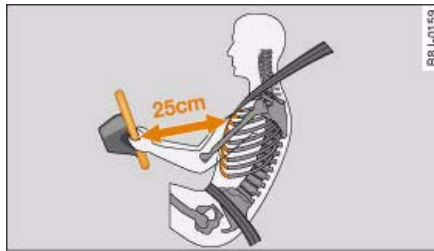

Fig. 179 Minimum distance from steering wheel
- It is important for the driver and front passenger to maintain a distance of at least 25 cm from the steering wheel or dashboard ⇒ *page 169*, fig. 179. The airbag system will not be able to give the required protection if you sit too close to the steering wheel or dashboard. There is also a risk of injury if the airbags are inflated. The front seats and head restraints must always be positioned correctly for the height of the occupant.